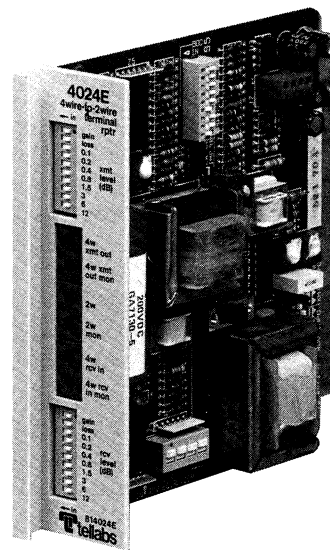

figure 1. 4024E 4Wire-to-2Wire Terminal Repeater
1.01 The Tellabs 4024E 4Wire-to-2Wire Terminal Repeater (figure 1) provides active level control and impedance matching between a 4wire voice-frequency (VF) transmission facility and a 2wire VF loop. Active amplitude equalization is available in the 4wire receive path. In effect, the single 4024E module functions both as a line amplifier and as a terminating set, and is commonly referred to as a 24V4-type repeater.